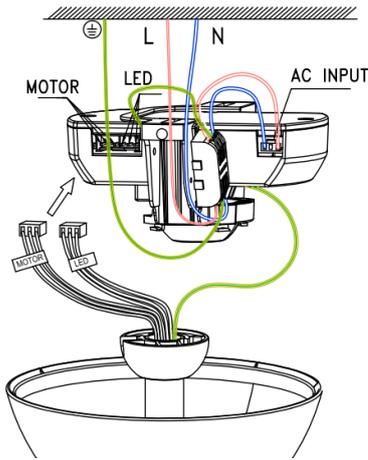

Fig 7.1
See Fig 7.1
- Slide receiver into position in the hanging bracket making sure the AC input connector on the receiver is aligned with the AC port on the receiver. Refer Fig 7.1 and 7.2